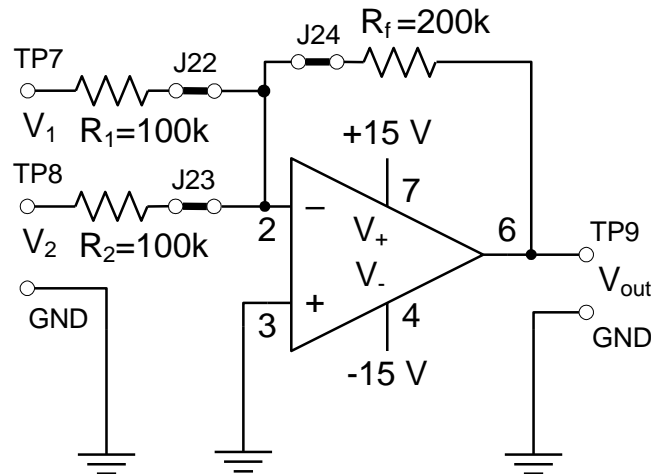

Figure 4 – Two-Input Summing Amplifier Schematic Diagram
2. Insert jumper J23 to construct a two-input summing amplifier circuit shown in Figure 4.